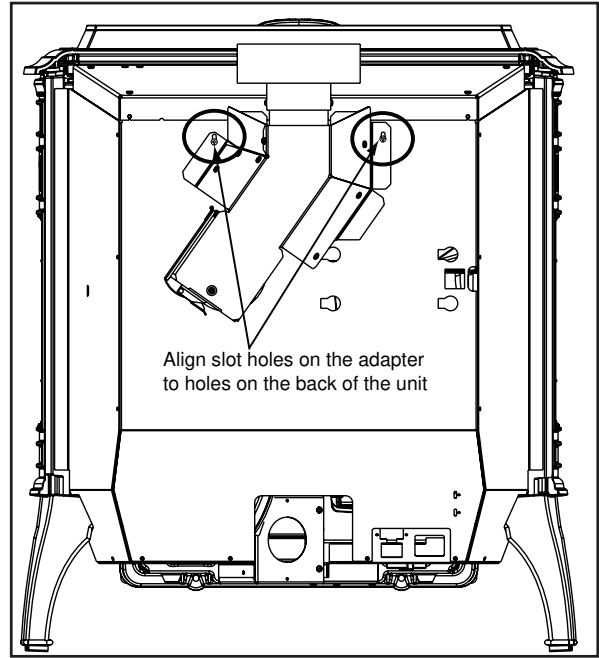

Figure 18.2
3. Align slot on left of adapter with hole in the back of the unit and secure with screw. You may drill out the hole using #26 drill bit provided but only if needed. **Figure 18.2**
5. Drill 2 holes with #26 drill bit through the rear exhaust outlet using the 2 holes already in the short horizontal pipe in the top vent adapter as a guide. Install the screws. **Figure 18.2**